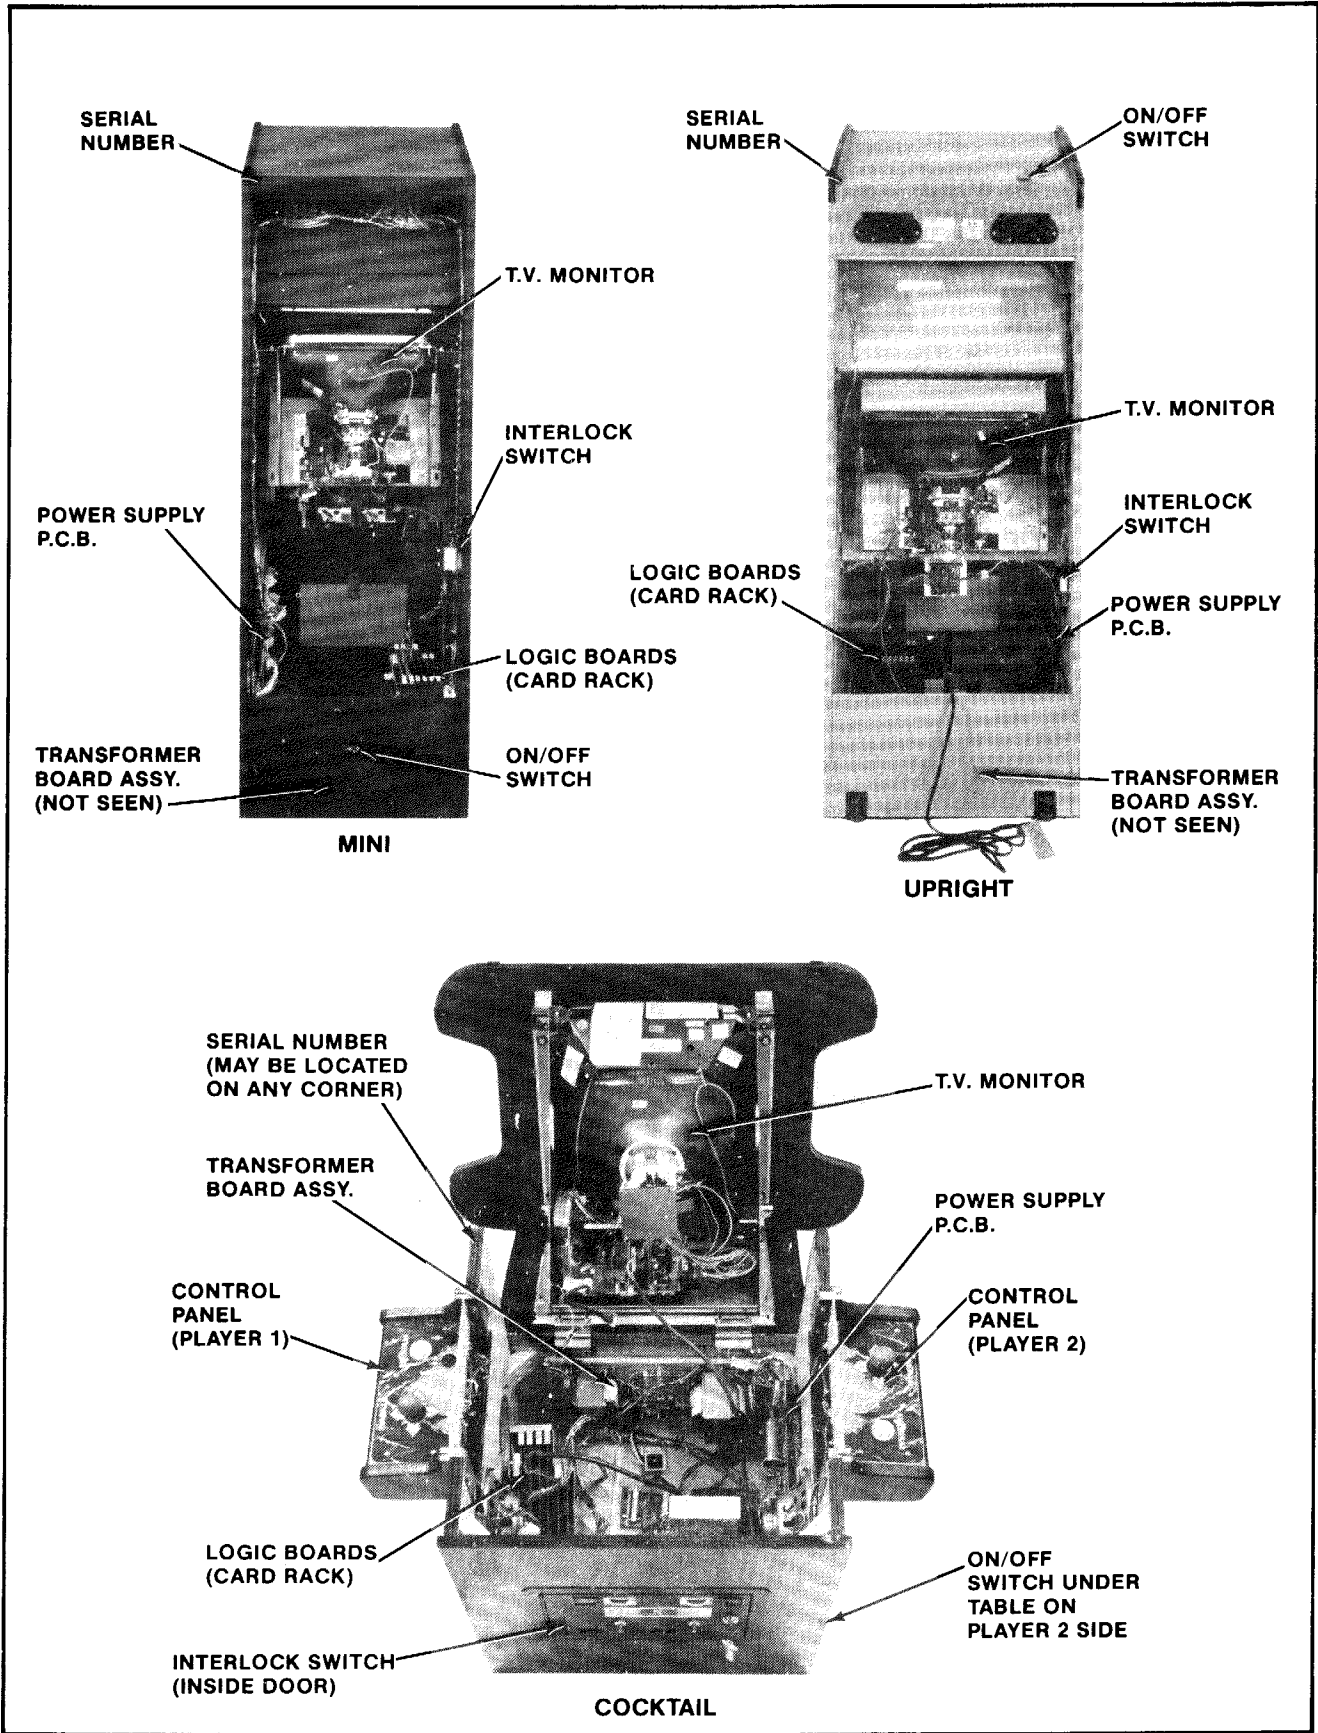

Figure 2-2 Location of Serial No., Interlock Switch, On/Off Switch, & Major Sub-Assys
5. Open the cabinet and inspect the inside of the game for any signs of damage. See Figure 2-2.
- Make sure all printed circuit boards (P.C.B.'s) are firmly seated in their connectors. See Figure 2-2. These connectors are also keyed. The P.C.B.'s will only go into them one way without being damaged.
- Note the location of the game's serial number. See Figure 2-2.
- Check all major subassemblies to be sure they are mounted securely. These are called out in Figures 2-2 and 2-3.
3. Interlock and power ON/OFF switches. See Figure 2-2.
The game ON/OFF switches for all models are located as shown in Figure 2-2. Turn the game on and allow it to warm up a few minutes.